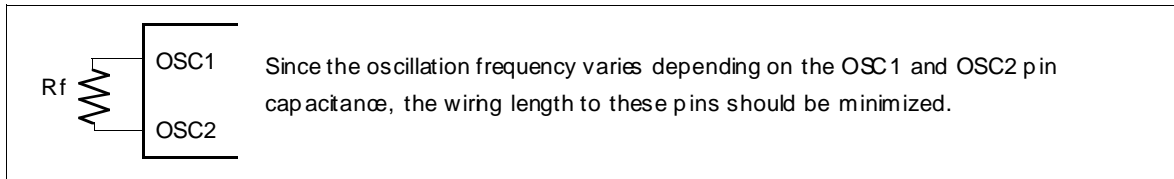

Figure 45 Internal Oscillation
11. Applies to the internal oscillator operations using external oscillation resistor Rf (figure 45 and table 27).